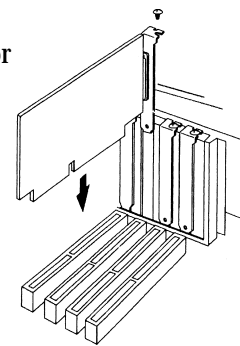

Figure 13, Inserting Card
6. Align and insert the silver end of the ISA I/O bus connector on the bottom of the AHA-1542 into the chosen slot (Figure 13)